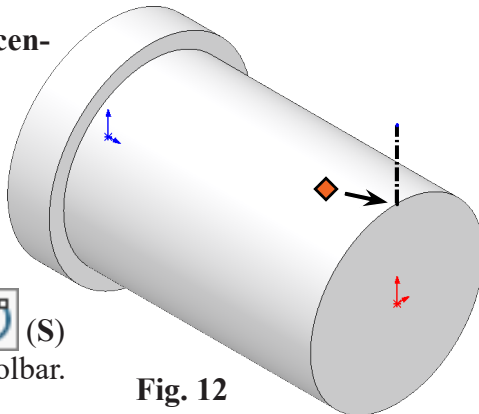

Fig. 12
Step 4. Sketch **vertical centerline up from top quadrant point**  of rear face, Fig. 12.
Step 5. Click **Circle**  (S) on the Sketch toolbar.